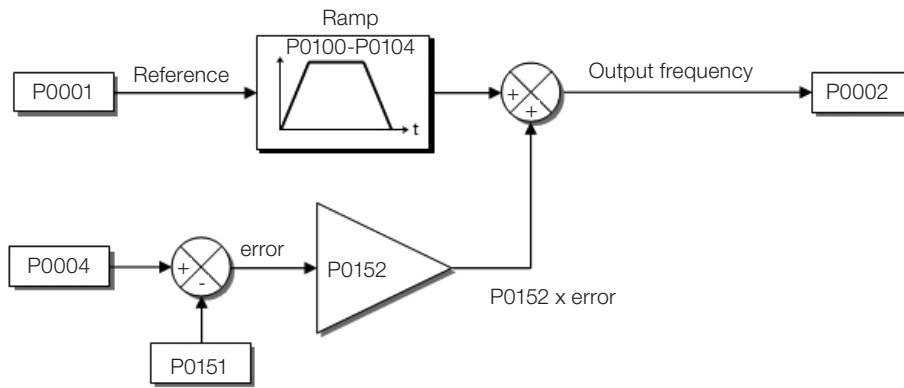
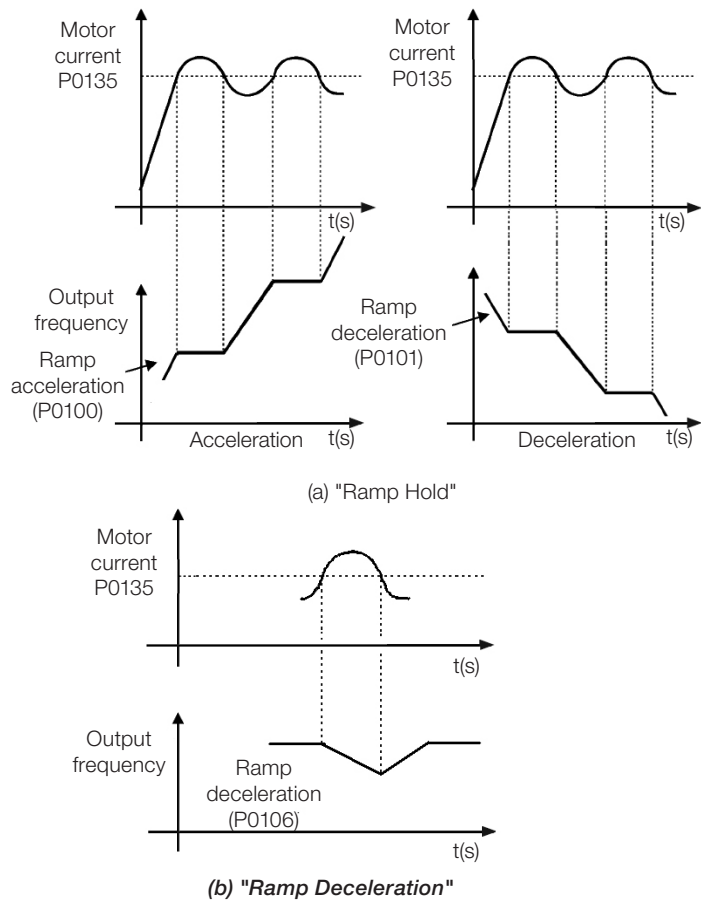

Figure 9.8: Block diagram of DC Link voltage limitation – Accelerate Ramp
Figure 9.10: (a) and (b) Actuation modes of Current Limitation via P0135
- Actuation: the DC Link voltage is measured (P0004) and compared to the value set in P0151; the difference between those signals (error) is multiplied by the proportional gain (P0152); the result is then added to the ramp output, as per Figure 9.8 on page 9-12 and Figure 9.10 on page 9-13.
- Actuation: if the motor current exceeds the value set in P0135 during acceleration or deceleration, the speed will not be incremented (acceleration) or decremented (deceleration). When the motor current reaches a value below P0135, the motor accelerates or decelerates again. Refer to Figure 9.10 on page 9-13.
- Actuation: if the motor current exceeds the value set in P0135, a null value is forced for the speed ramp input forcing the motor deceleration. When the motor current reaches a value below P0135, the motor accelerates again. Look at Figure 9.10 on page 9-13.
Current level to activate the current limitation for the Ramp Hold and Decelerate Ramp modes, as per Figure 9.10 on page 9-13, respectively.